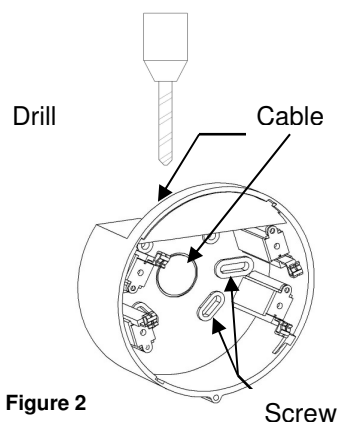

Figure 2
2. Make Cable entries and fix base housing to Wall in the orientation shown in Fig 2.